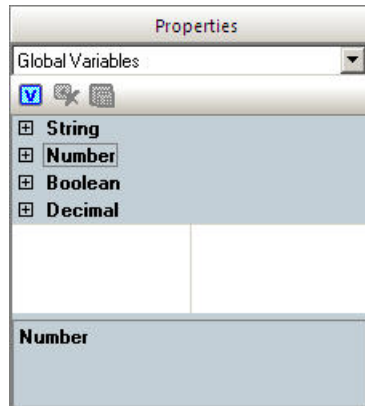

FIG. 242 CodeBuilder - Properties Tab
- Variables are created and managed in the **Properties** tab of the *CodeBuilder* dialog (FIG. 242):